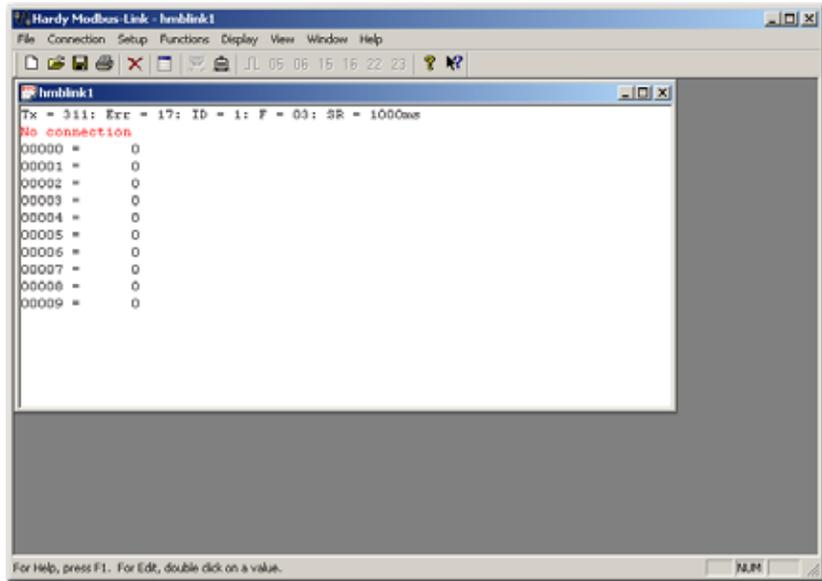

FIG. 228 HARDY MODBUS-LINK DISPLAY
Step 3. Double click the Hardy Modbus-Link icon. The Hardy Modbus-Link display appears. (See Fig. 228)